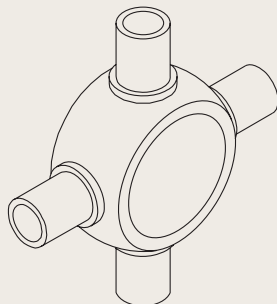
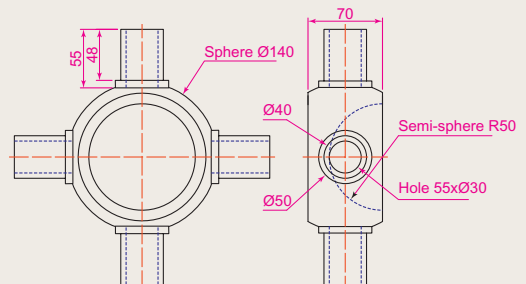

Fig. 13.13 Exercise 2
Fig. 13.14 Exercise 2 – working drawing
- Using the tools **Sphere**, **Box**, **Union** and **Subtract** and working to the dimensions given in Fig. 13.14, construct the 3D solid model as shown in the isometric drawing Fig. 13.13.